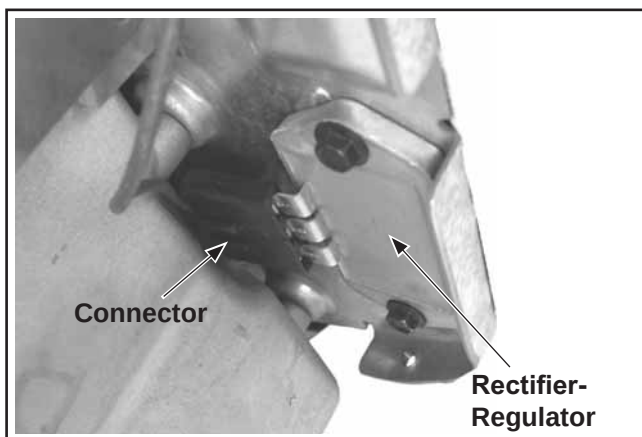

Figure 10-62. Installed Rectifier-Regulator.
2. Attach the rectifier-regulator to the opening in backing plate from the underside, and secure with the two mounting screws. See Figure 10-62.